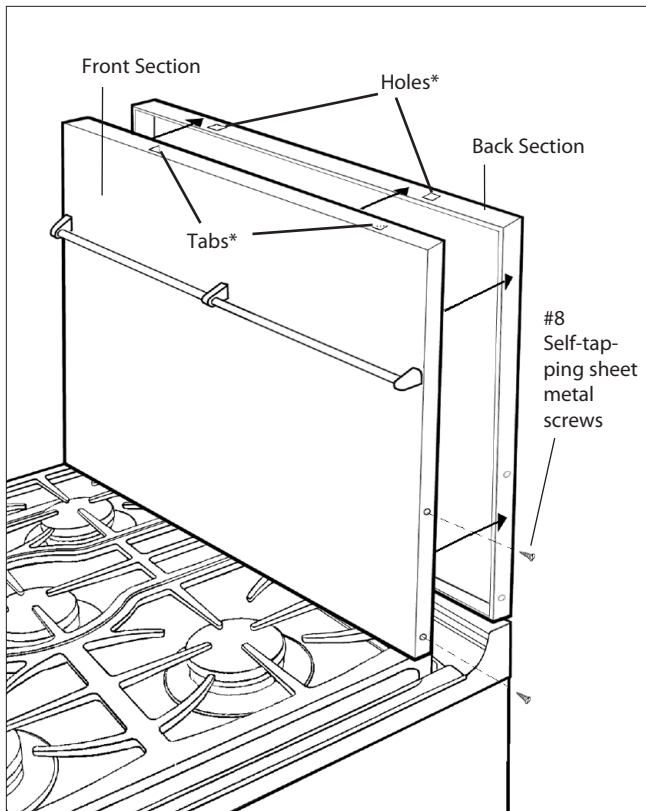

Fig.05
4. Bend wedge-shaped tabs down on top of the front section approximately 3/16". When mounting the front section, insure that these tabs engage the mating holes in the top of the rear section (see fig. 05, page 4).
5. Secure Front Section of backguard to Back Section with #8 self-tapping sheet metal screws supplied (fig. 05, page 4).